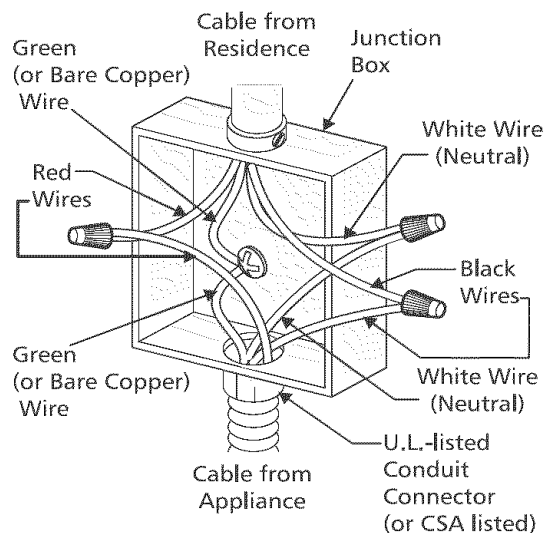

Figure 3 – 4-Wire Electrical System
When connecting to a 4-wire electrical system, when installing in a mobile home, or when local codes **DO NOT** permit connecting the cabinet-grounding conductor to the neutral (white) junction box wire (see Figure 3)
3. In the circuit breaker, fuse box or junction box: connect appliance and residence cable wires as shown in figure 3.